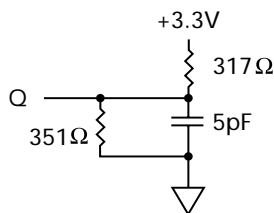
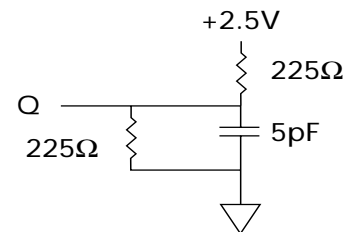

Figure 2
Figure 4
- The load used for VOH, VOL testing is shown in Figure 4 for 2.5V I/O. AC load current is higher than the shown DC values. AC I/O curves are available upon request.
3. This parameter is measured with the output loading shown in Figure 2 for 3.3V I/O and Figure 4 for 2.5V I/O.